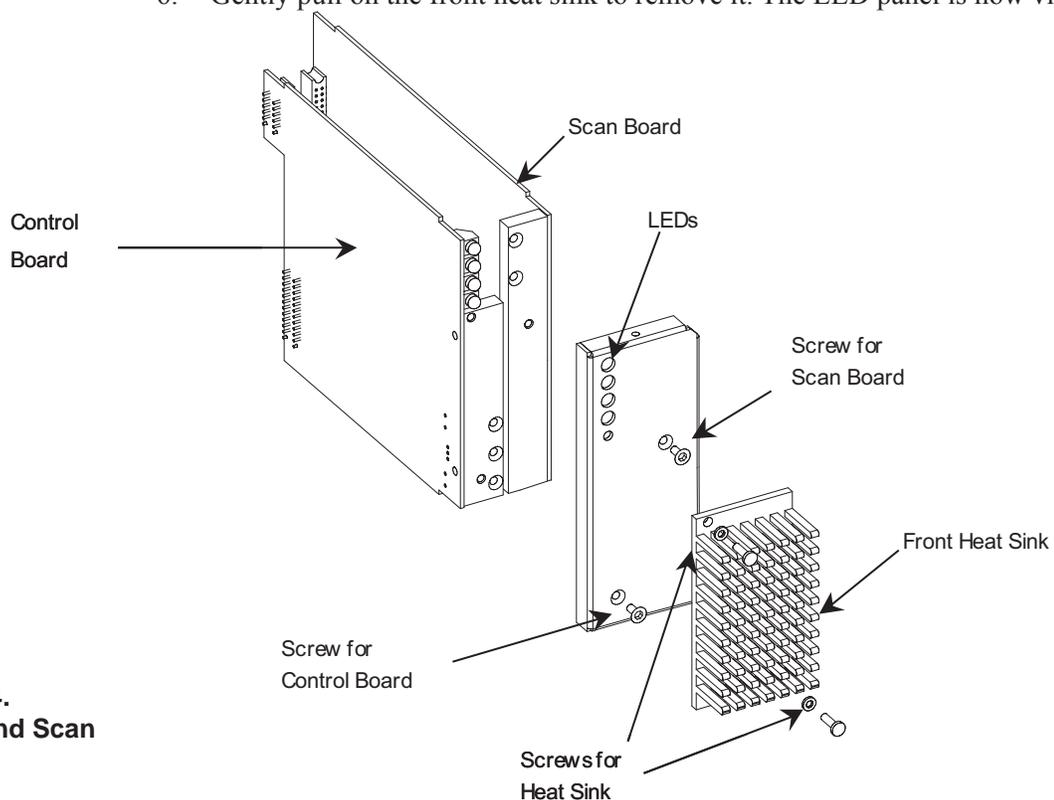

Figure 5-4.
5. Once the assembly has been removed from the unit casing, remove the upper left and bottom right 3/8" screws with internal tooth lock washer from the heat sink. See Figure 5-4.